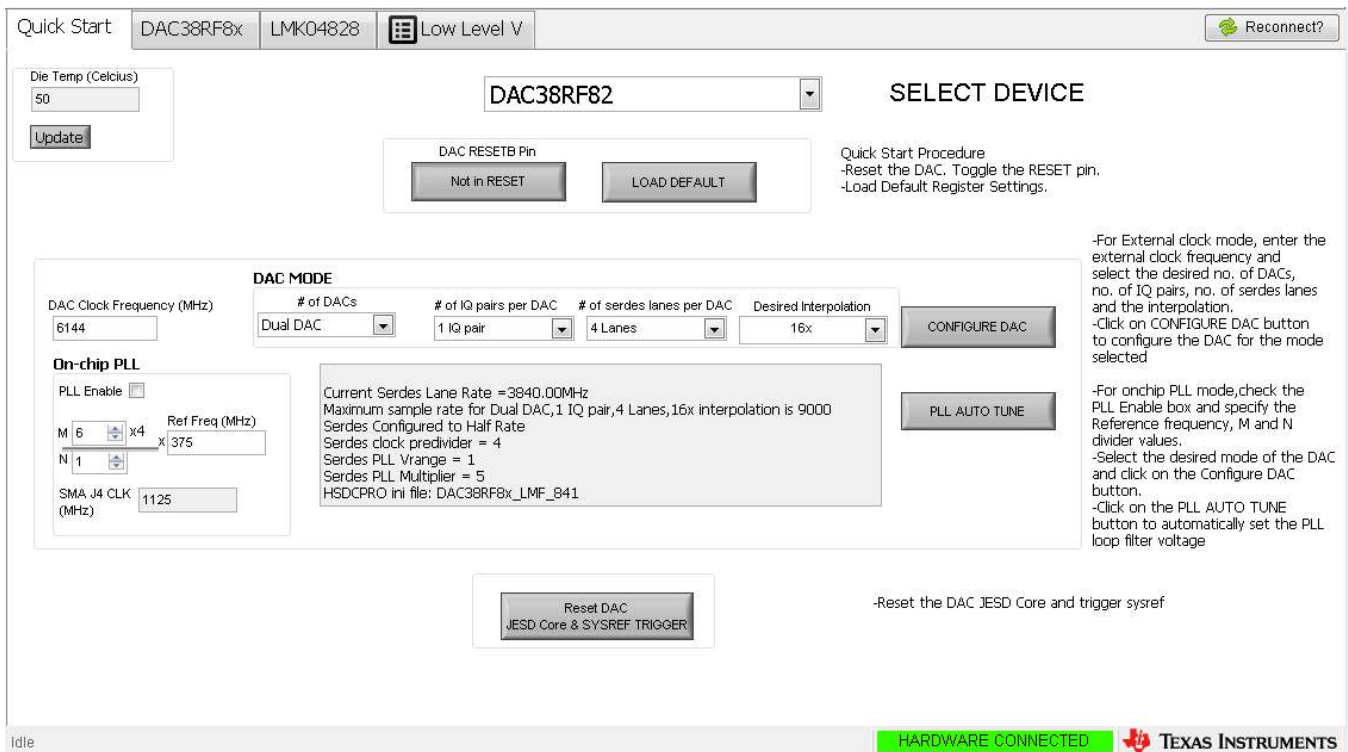

Figure 4. DAC38RF8xEVM GUI Quick Start Page Configured for External Clock Mode
1. Start the DAC38RF8xEVM GUI, then navigate to the quick start page as shown in Figure 4.
5. Enter the desired DAC clock frequency (6144 MHz in this example) and specify the desired number of DACs (Dual DAC), number of IQ pairs (1 IQ pair), number of lanes (4 lanes), and interpolation (16x) as shown in Figure 4.